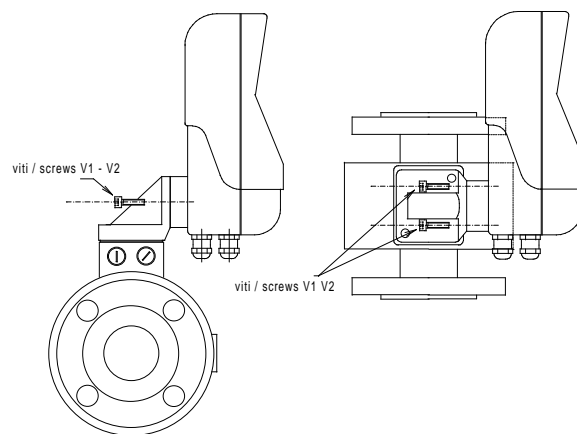

Fig. 1
* Remove the two screws V1 and V2 (Fig. 1).